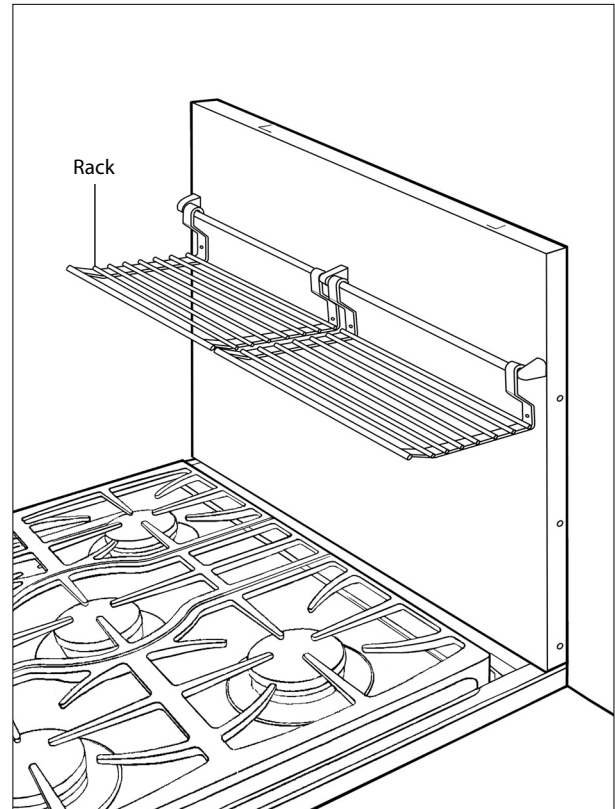

Fig.06
6. Attach racks to rod (fig. 06, page 5). The maximum weight placed on each rack should be 10 lbs.